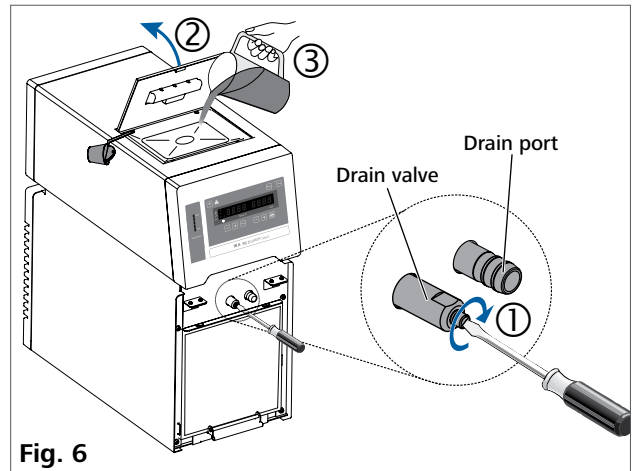

Fig. 6
- Check and make sure that the drain valve is closed (rotate clockwise to the stop position, see Fig. 6).